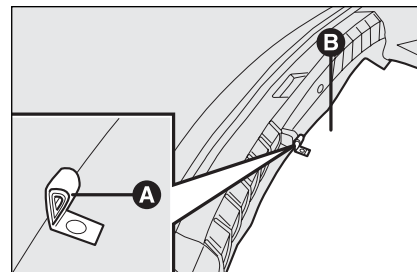
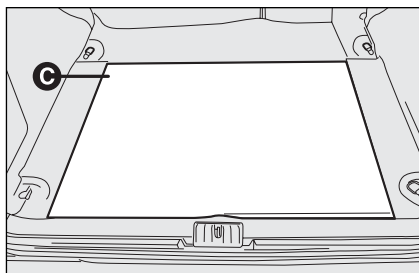
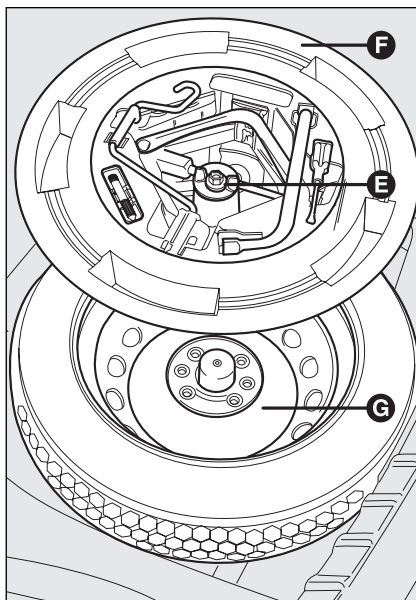
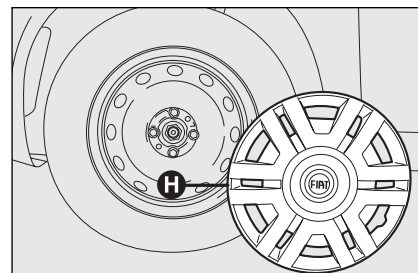

fig. 2
fig. 3
fig. 4
fig. 5
- Stop the car in a position that is not dangerous for oncoming traffic where you can change the wheel safely. The ground should be flat and adequately firm; turn the engine off and pull up the handbrake; engage first gear or reverse; use the handle **A-fig. 2** to remove the piece of stiff cover **B** (saloon versions) or **C-fig. 3** (Multi Wagon versions); loosen the clamping device **E-fig. 4**;
- take out the tool container **F**-fig. 4 and take it near to the wheel to be changed; take out the space-saver spare wheel **G**; remove the wheel cap **H**-fig. 5 (versions with steel rims), or remove the wheel hub cap (versions with alloy rims);